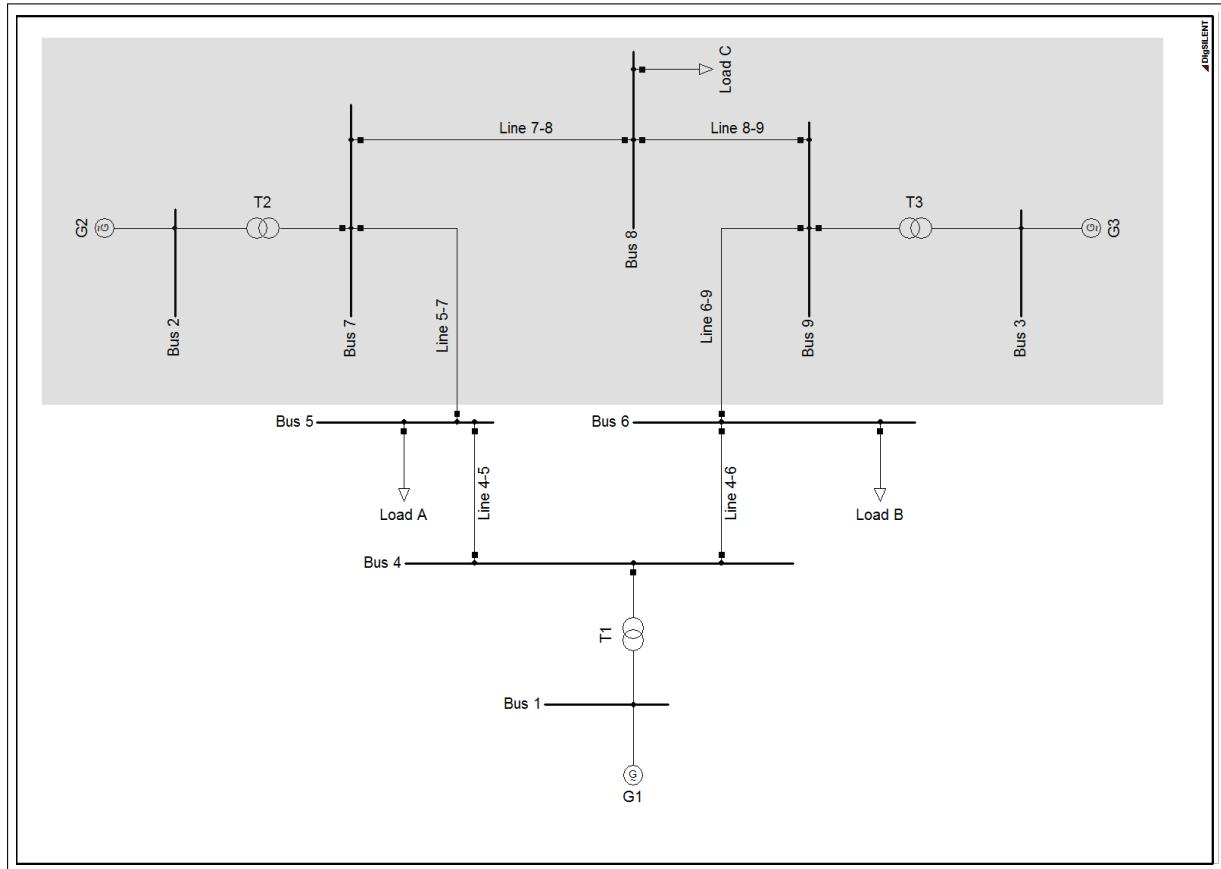

Figure 48.5.1: Example System with Original Network
This section presents a Network Reduction example using a small transmission network feeding a distribution system from “Bus 5” and “Bus 6” as shown in Figure 48.5.1. The distribution system is represented by “Load A” and “Load B” and the corresponding two transformers. As a user you would like to study the distribution system in detail but are not concerned with the detailed power flow within the transmission system. Therefore, the Network Reduction tool can be used to create a equivalent model for the transmission system.
3. Click on the **Mark Interior Region** button and verify that the region marked corresponds with the region showed grayout in Figure 48.5.1.